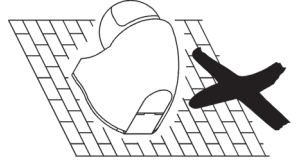
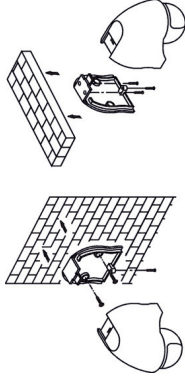
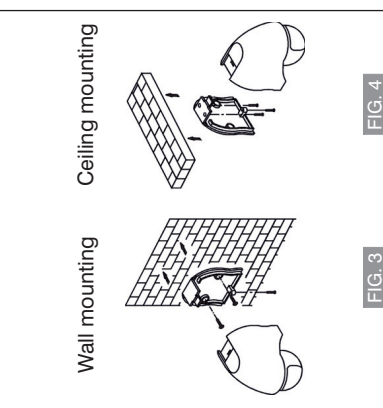

FIG. 3
FIG. 4
FIG. 3
- Altezza di montaggio consigliata: **a parete** 1,8 ÷ 2 m da terra (FIG. 3); **a soffitto** 2,5 ÷ 4 m da terra (FIG. 4).
- Height of installation recommended: for wall mounting 1,8 ÷ 2 m above the ground is needed (FIG. 3); for ceiling mounting 2,5 ÷ 4 m above the ground is required (FIG. 4).